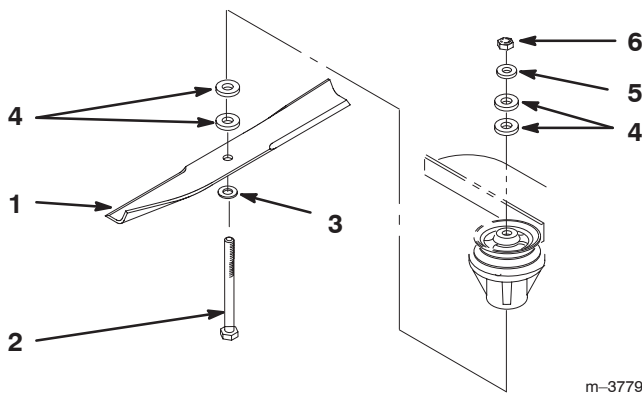

Figure 19
3. Hold the blade bolt and remove the nut (Fig. 19).
4. Slide the bolt down through the spindle, and change the spacers as needed (Fig. 19).
5. Insert a bolt, add extra spacer(s), and secure them with a thin washer and a nut (Fig. 19).